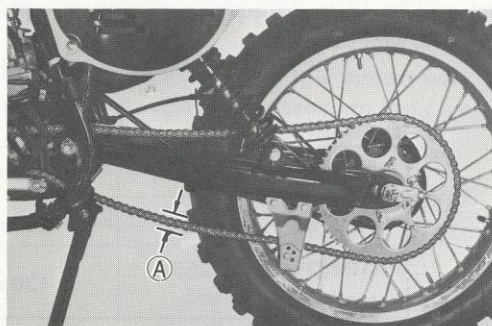

Fig. 157. Drive chain sag
The slack is specified in terms of the sag the chain exhibits as shown in Fig. 157. Check the amount of sag ①, when the machine is standing erect by itself without any load, and increase or reduce the sag by repositioning the two adjusters equally, as necessary.